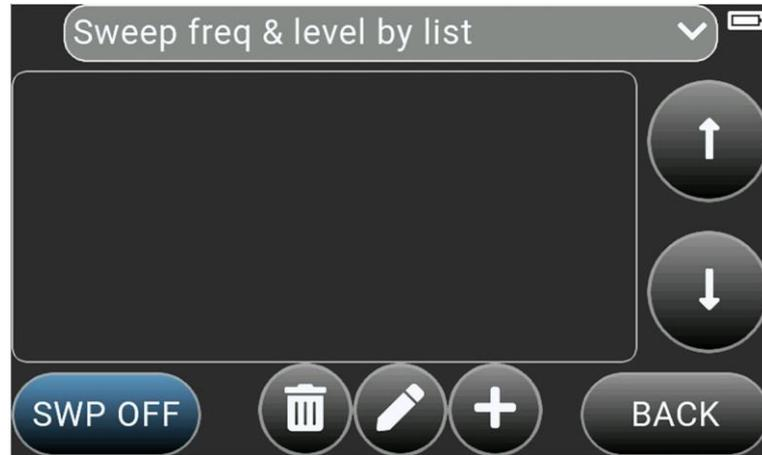

Figure 10.5. – Menu for creating a list of sweeps
10.4.2.1. Enter the signal output menu in **SWEEP** mode by pressing the button  on the device screen. The signal output menu in the sweep mode is shown in Figure 10.5.